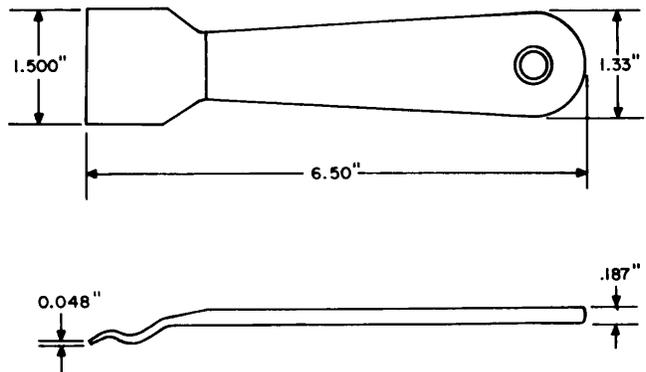

Fig. 13—788K1 Conductor Holder Tool
2.09 788K1: The 788K1 conductor holder tool (Fig. 13) is a single piece of molded plastic with a flat handle and a head configured to hold up to ten conductors and leave the block accessible for removal. The 788K1 tool is used to hold conductors in place on an 88-type wiring block during the removal of an 88-type connector block from the 88-type connector system.